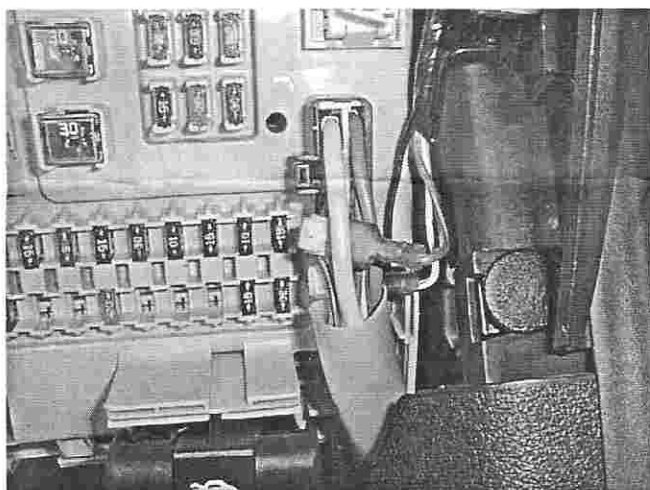

Fig 9. Mating spade terminal pushed onto the wire tap terminals.
14. Attach the Red/Blue wire on the supplied wiring loom to the Red/Blue wire with the installed yellow wire tap and attach the White/Red on the supplied wiring loom to the White/ Red wire with the installed yellow wire tap. Reconnect the Brown 7 pin connector to the fuse panel. Refer Fig 9.